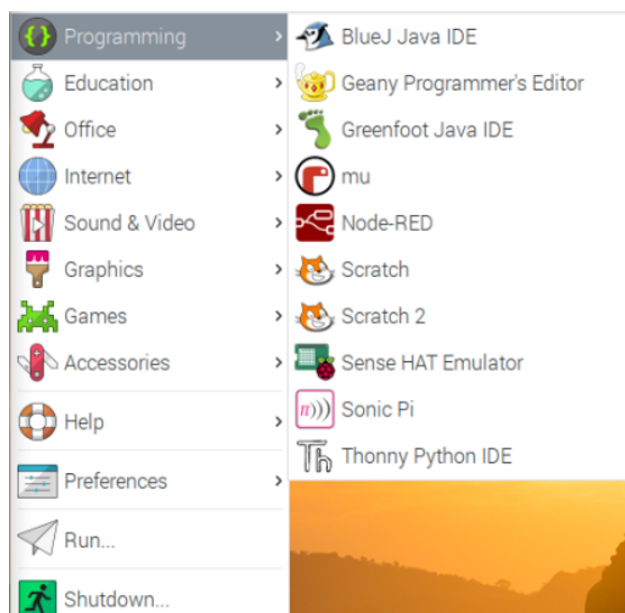

Figure 2.2: Starting the Node-RED service
14. Everything should be ready to start programming with **Node-RED**. Open the applications menu by clicking on the Raspberry icon in top left corner. Then from programming tools choose **Node-RED** as shown in Figure 2.2.